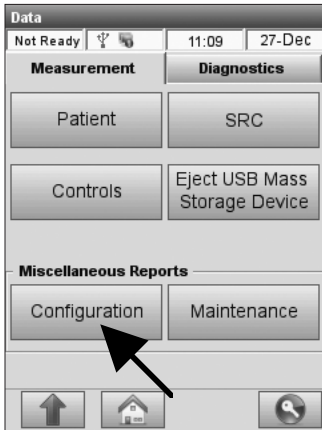

Fig. 6-35 Configuration
2. On the **<Measurement>** tab, select **<Configuration>** (Fig. 6-35).
4. To remove the USB device safely, touch the USB icon  in the status bar at the top of the screen or the button **<Eject USB Mass Storage Device>** (Fig. 6-35).